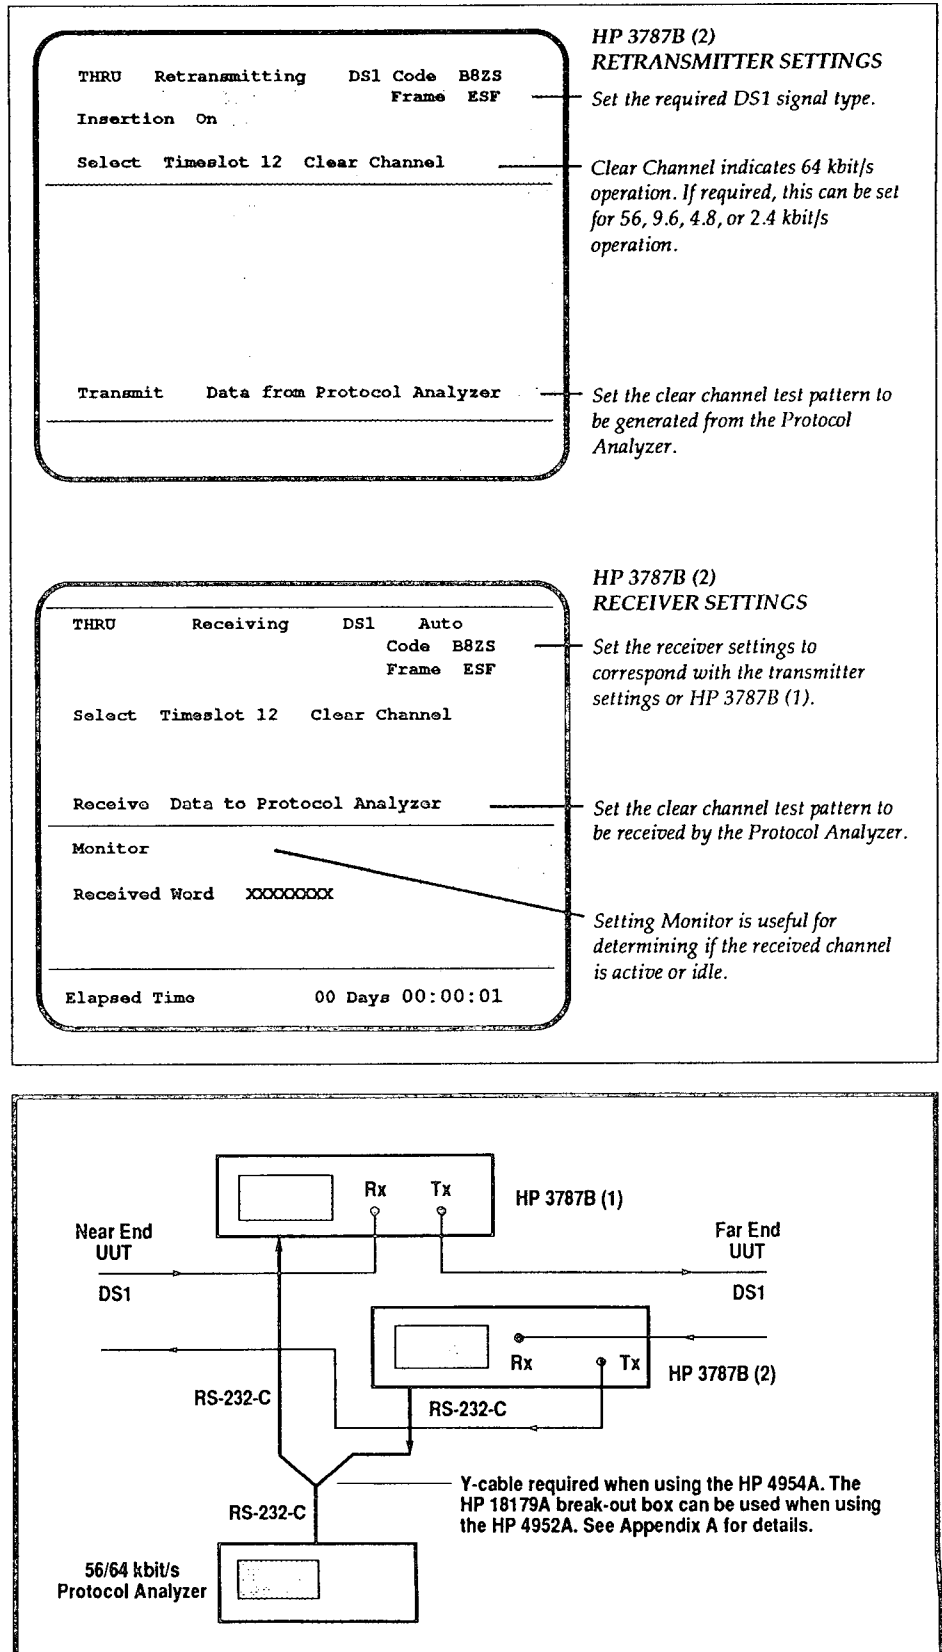

Figure 4 Thru-mode troubleshooting configuration
2. Set up the HP 3787B (2) Retransmitting and Receiving displays as shown on page 9.
4. Connect the two HP 3787Bs to the unit under test as shown in Figure 4.
This Appendix gives information on how to connect two HP 3787Bs via the rear panel PROTOCOL ANALYZER ports to one HP 4952A or 4954A Protocol Analyzer. This connection is required when using the HP 3787Bs and a protocol analyzer to perform simulation and analysis on full duplex T1 signals. See Figure 4 on page 9 for application details.